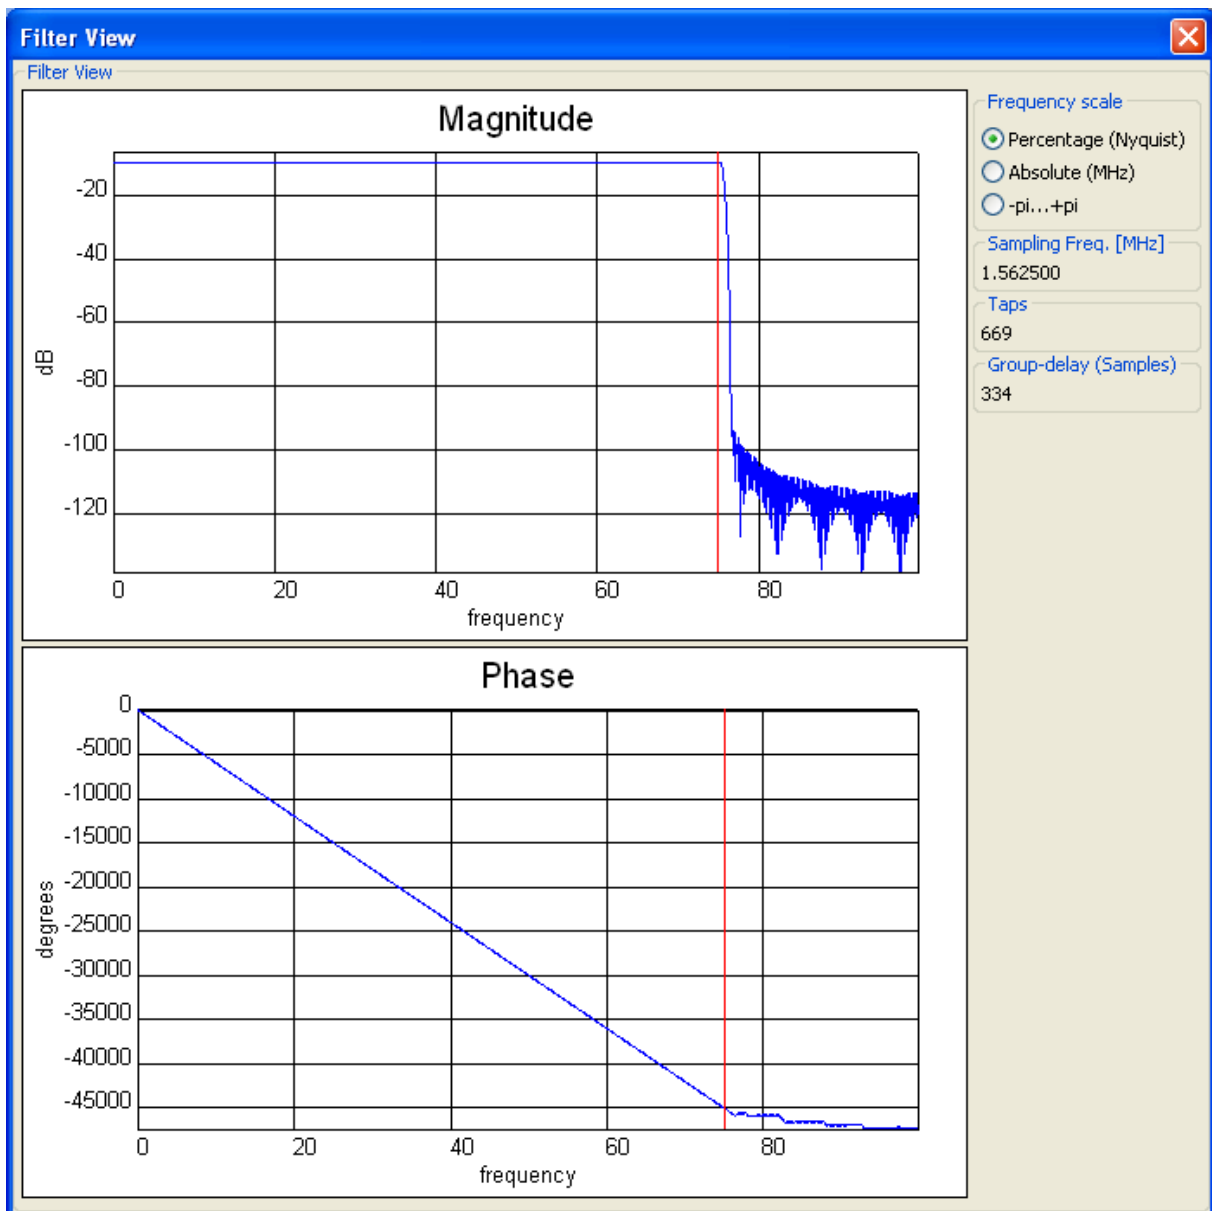

figure 6: the filter analysis window
- Further details (also for documentary use) of the filter can be seen by calling an option in the tools menu, see figure 6.
This menu item allows viewing the filters response, if the output option for filtering has been activated (see section 6.1.3). The filter analyzer will appear as shown in figure 6.